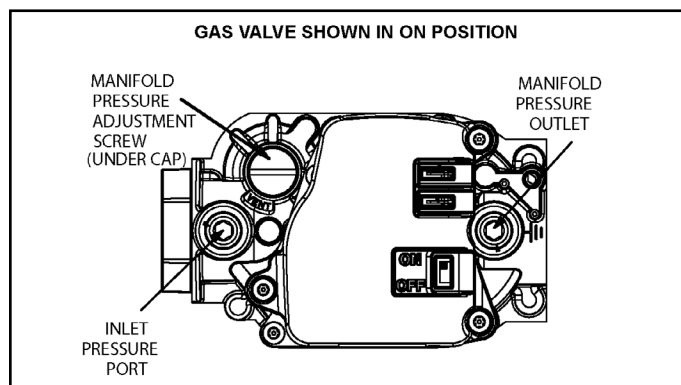

Figure 68.
See Figure 68
6. Move gas valve switch to OFF. See Figure 68.
8. Move gas valve switch to ON. See Figure 68.
plugged tap or pressure post located on the gas valve to facilitate test gauge connection. See Figure 68. Check gas line pressure with unit firing at maximum rate. Low pressure may result in erratic operation or underfire. High pressure can result in permanent damage to gas valve or overfire.